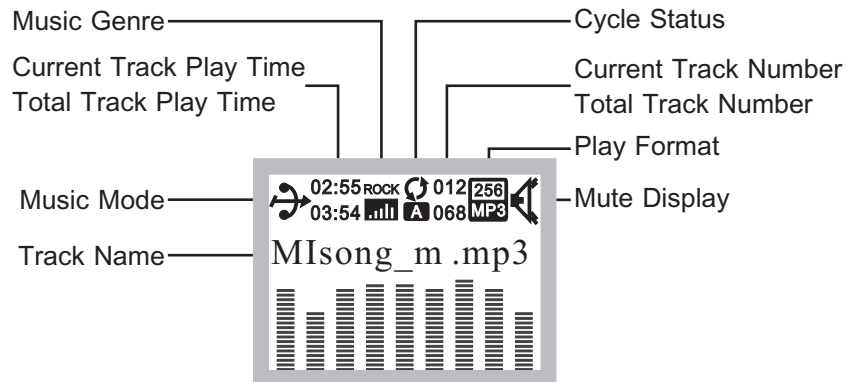

Fig. 8
(A) USB Display Screen, Fig. 8: